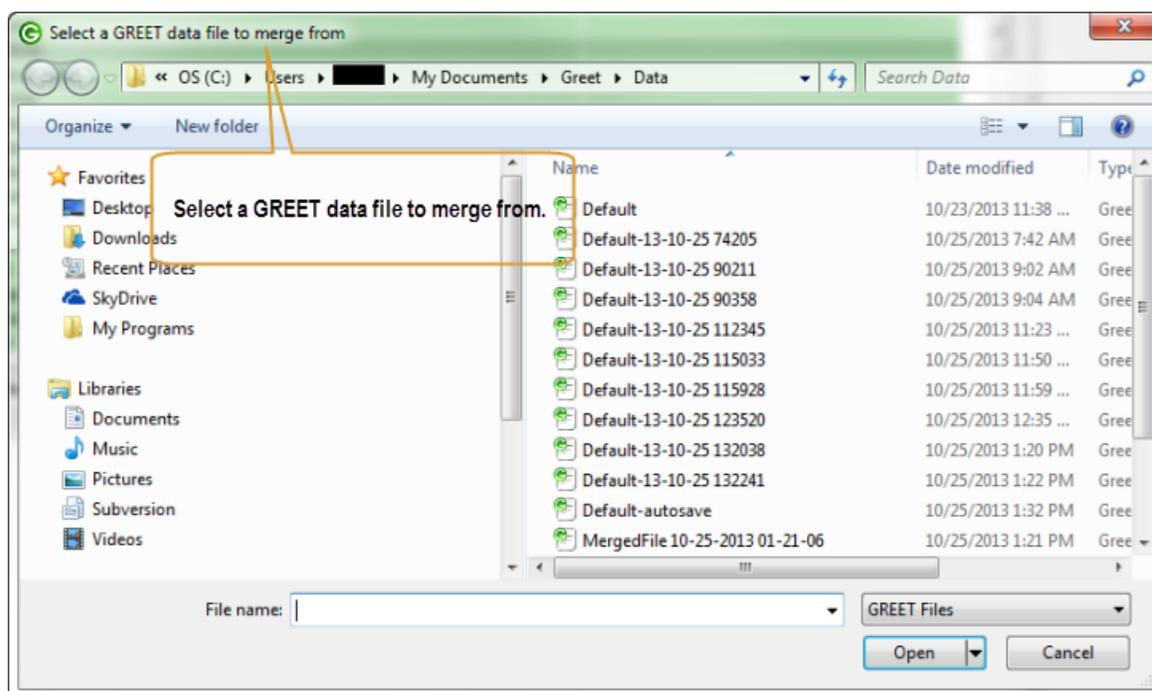

Figure 117: Select the Merge From from the form.
**Step 2.** Select the Merge From data file. See Figure: 117